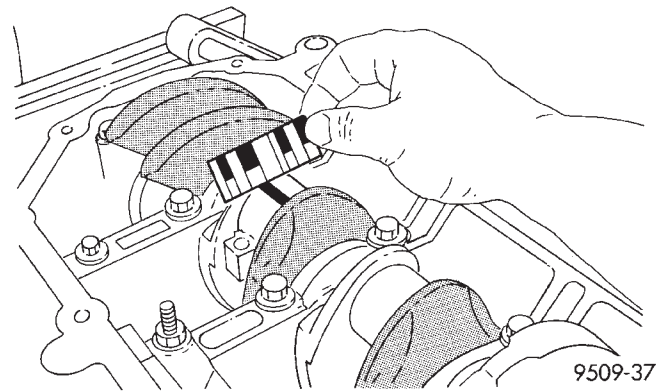

Fig. 10 Measuring Plastigage Width
- (1) Rotate the crankshaft until the connecting rod to be checked is at the bottom of its stroke.
- (2) Remove oil film from surface to be checked. Plastigage is soluble in oil.
- (3) Place a piece of Plastigage across the entire width of the bearing shell in the bearing cap approximately 6.35 mm (1/4 in.) off center and away from the oil hole (Fig. 10). In addition, suspect areas can be checked by placing plastigage in the suspect area.
- (4) Before assembling the rod cap with Plastigage in place, the crankshaft must be rotated until the connecting rod being checked starts moving toward the top of the engine. Only then should the cap be assembled and torqued to specifications. **Do not rotate the crankshaft while assembling the cap or the Plastigage may be smeared, giving inaccurate results.**
(5) Remove the bearing cap and compare the width of the flattened Plastigage (Fig. 10) with the metric scale provided on the package. Locate the band closest to the same width. This band shows the amount of clearance in thousandths of a millimeter. Differences in readings between the ends indicate the amount of taper present. Record all readings taken. Refer to Engine Specifications. **Plastigage generally is accompanied by two scales. One scale is in inches, the other is a metric scale.**
(6) Plastigage is available in a variety of clearance ranges. The 0.025-0.076 mm (.001-.003 in.) is usually the most appropriate for checking engine bearing proper specifications.